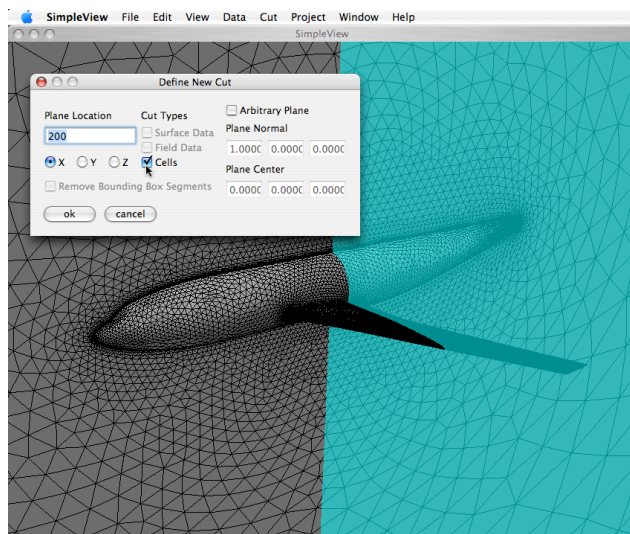

Figure 2.5.2 The Data Cut Pop-up Menu : selecting the “Cells” option from the Data Cut dialog
4. Click on the “Cells” selection box to indicate that you want SimpleView to find the cells crossing the specified plane, as shown in Figure 2.5.2.